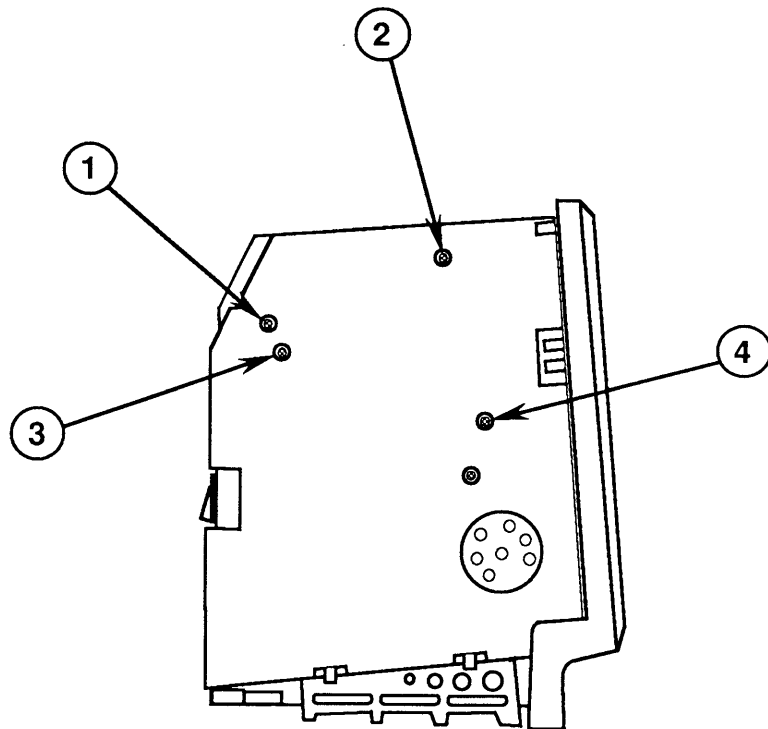

FIGURE 4
3. Adjust the brightness control (Figure 4, #1) with the alignment tool: turn it fully counterclockwise so that white lines are visible on the screen. Then turn it back in the opposite direction until the white lines just disappear.
5. Use the alignment tool to adjust the width (Figure 4, #2) until the picture is approximately 7 inches wide.
6. Use the alignment tool to adjust the height (Figure 4, #4) until the picture is approximately 4.7 inches high.
7. Turn the focus adjustment (Figure 4, #3) all the way clockwise until it doesn't turn any more. Now turn it back in the opposite direction (counterclockwise) 1/8 of a turn. This setting gives the best overall sharpness at all points on the screen.